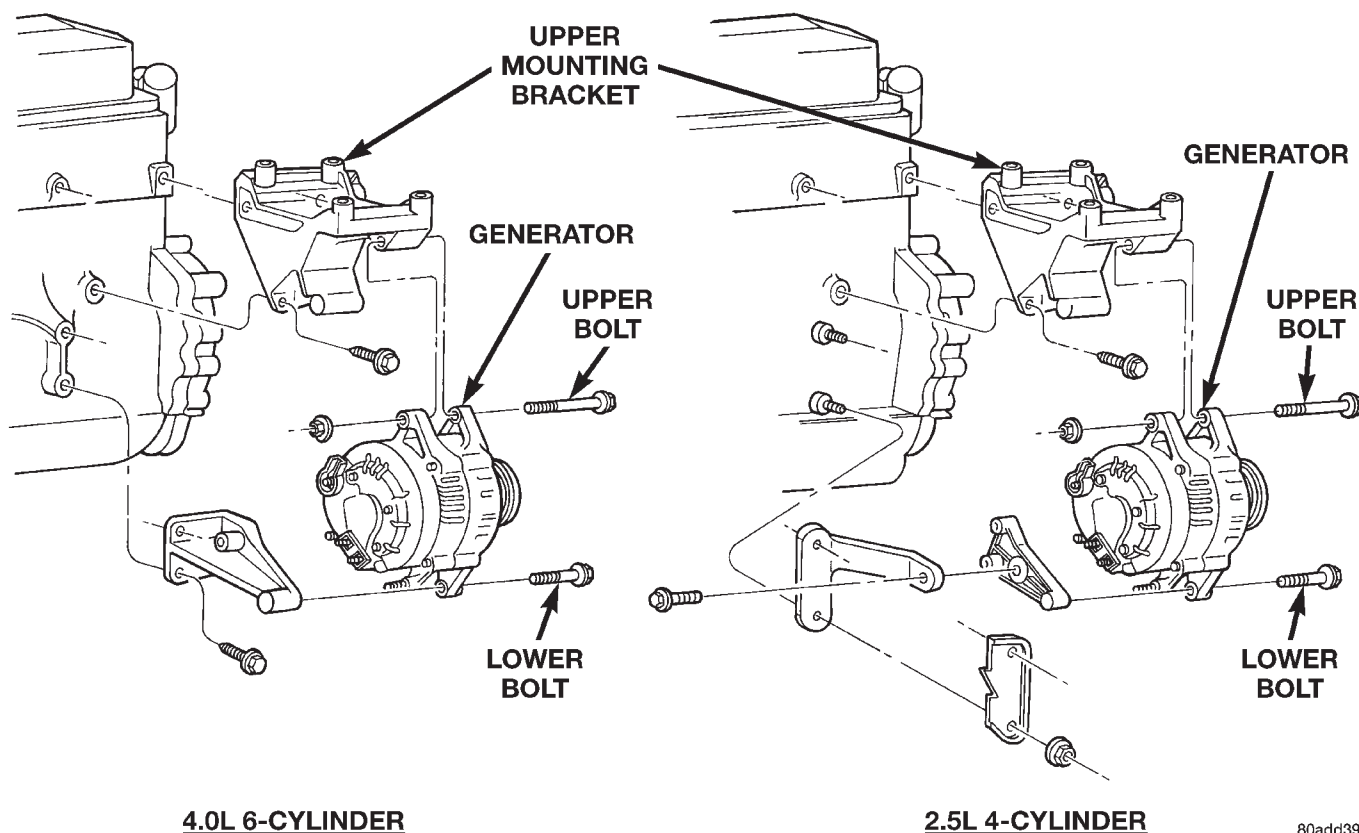

Fig. 5 Generator Remove/Install
- (4) Remove upper and lower generator mounting bolts (Fig. 5).
- (5) A slide bushing is pressed into the rear mounting ear of generator. Pry or drive this spacer rearward about 1/8 inch to loosen generator from upper